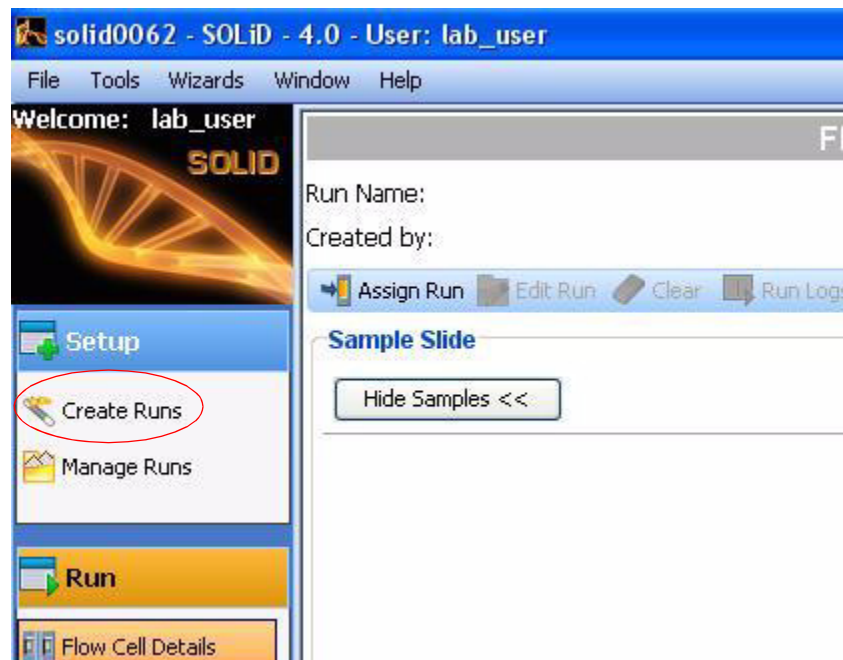

Figure 30 Use the run wizard to create a WFA run.
1. Click **Create Runs** in the Setup task pane on the left menu pane of the ICS (see Figure 30 on page 57).